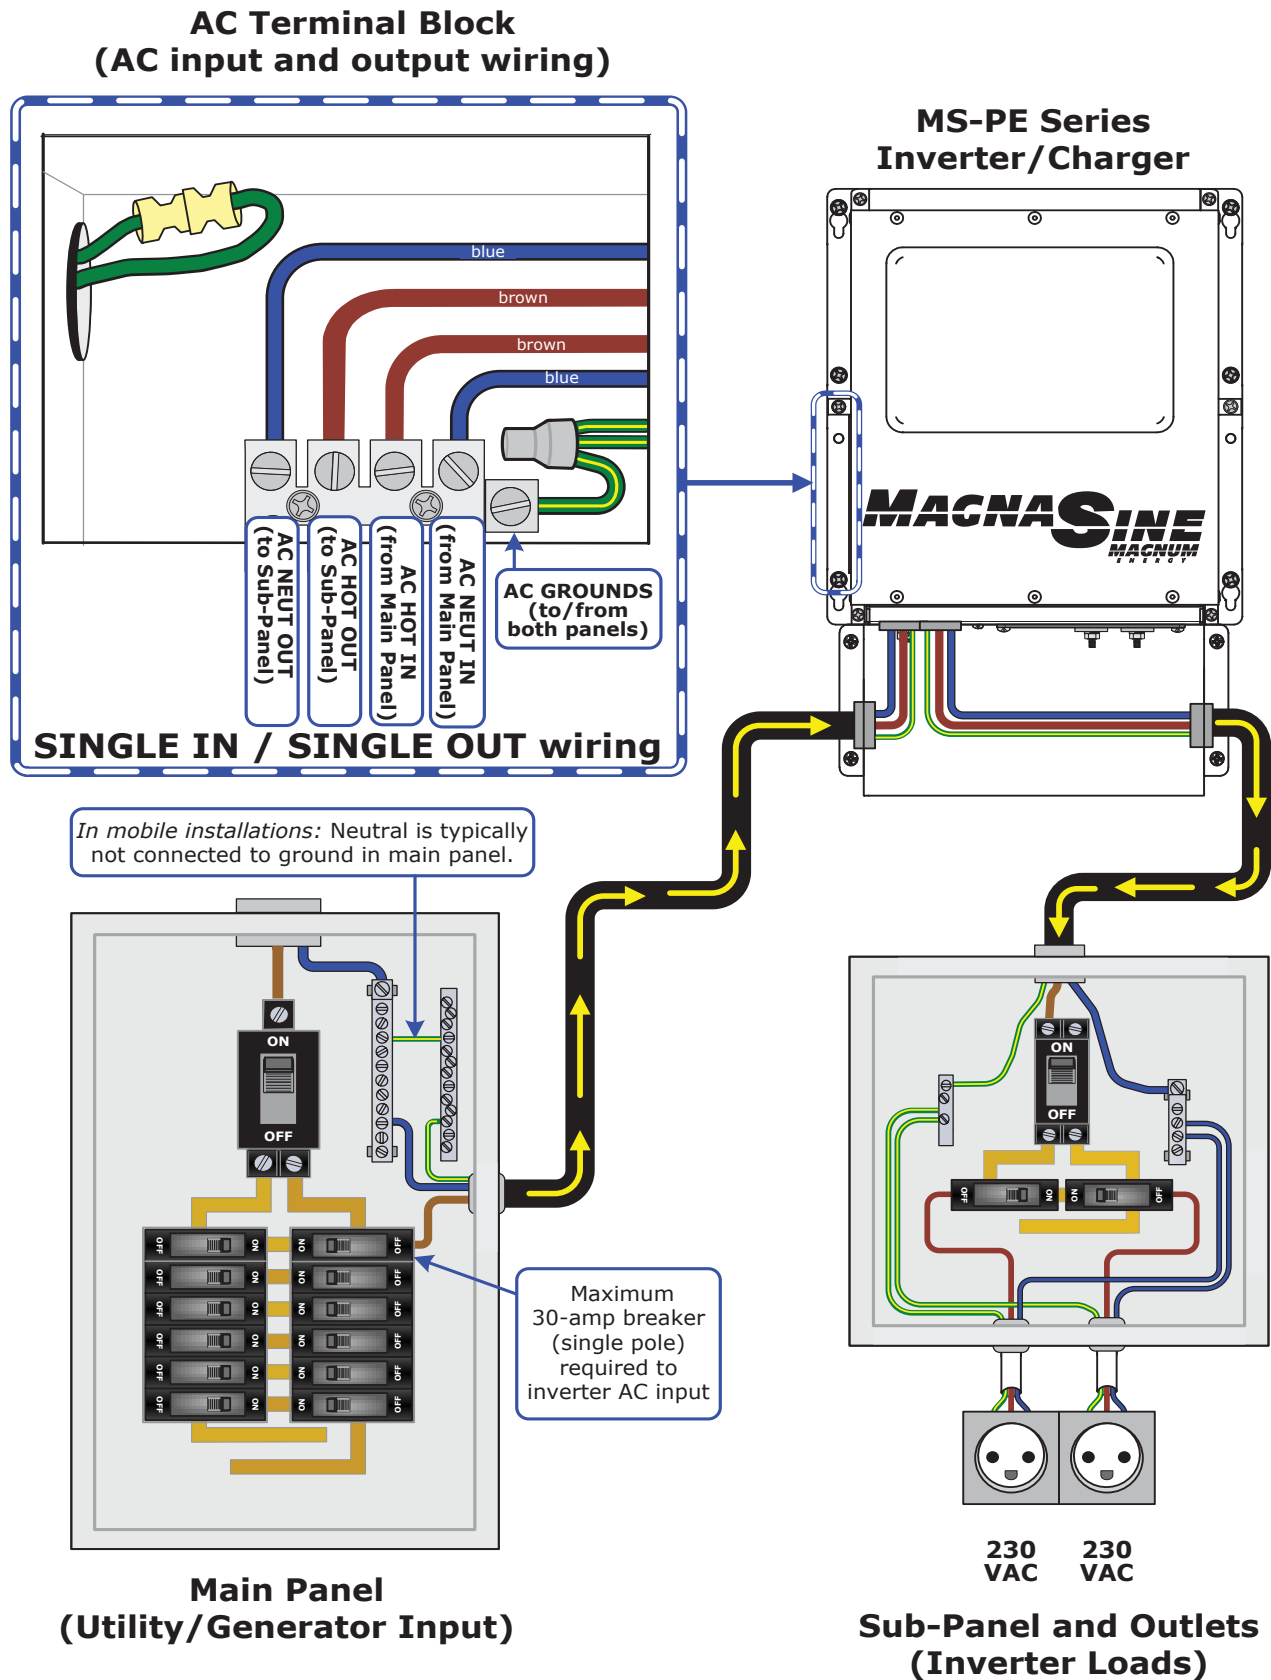

Figure 2-9, AC Wiring Input/Output
1. Route the wires (HOT1, NEUTRAL1, and GROUND1) from the AC electrical main panel through one of the strain relief clamps on the inverter (Figure 1-2, Item 8). Tighten the strain relief clamp securely on the cables. Always leave a little extra slack in the wiring. Refer to Figure 2-9.
The wiring configuration for installing and connecting the AC conductors into and out of the inverters (MS4124PE & MS4348PE models) requires an AC source¹ of 230VAC @ ≤ 30 amps. The maximum input breaker required is 30A (single pole), and the minimum wire size is 5.3 mm²/#10 AWG (In & Out). Refer to the wiring diagram in Figure 2-9.
AC Side – Wherever the AC output from the inverter is connected to an AC load center, there should be an equipment grounding conductor connected between the inverter case and the grounding point in the AC load center. The AC equipment grounding conductor (EGC-AC) is sized per Table 2-4, and is connected to the inverter's AC equipment grounding terminal as shown in Figure 2-9.